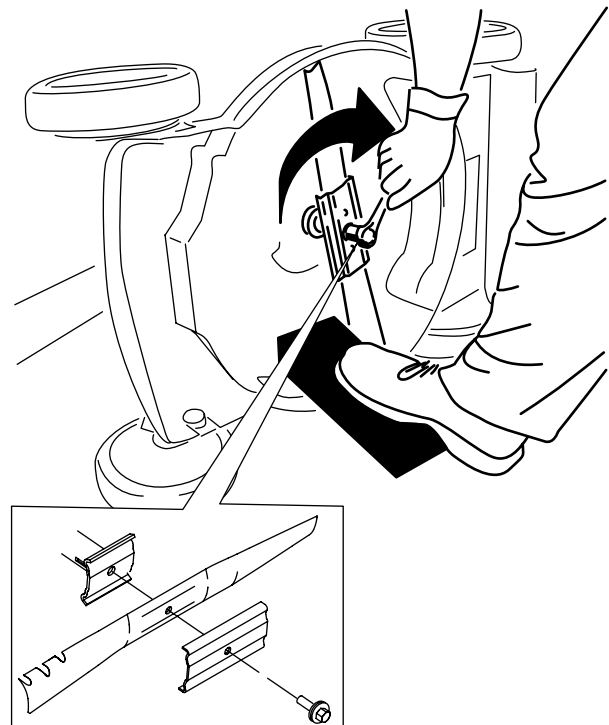

Figure 18
4. Install the new blade and the blade bolt (Figure 18).